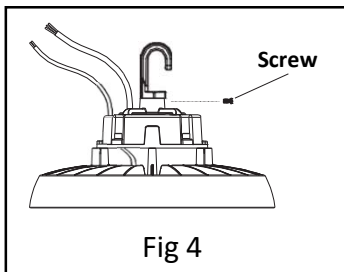

Fig 4
5. Once the J-hook is tightened install the screw to make sure the J-hook cannot be unscrewed. *See Fig 4.*